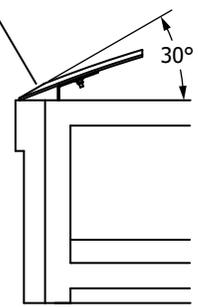

Figure 13-5
6) **Figure 13-5.** Grind end of trough at 30° angle, free from burrs, to reduce wear on tarp.